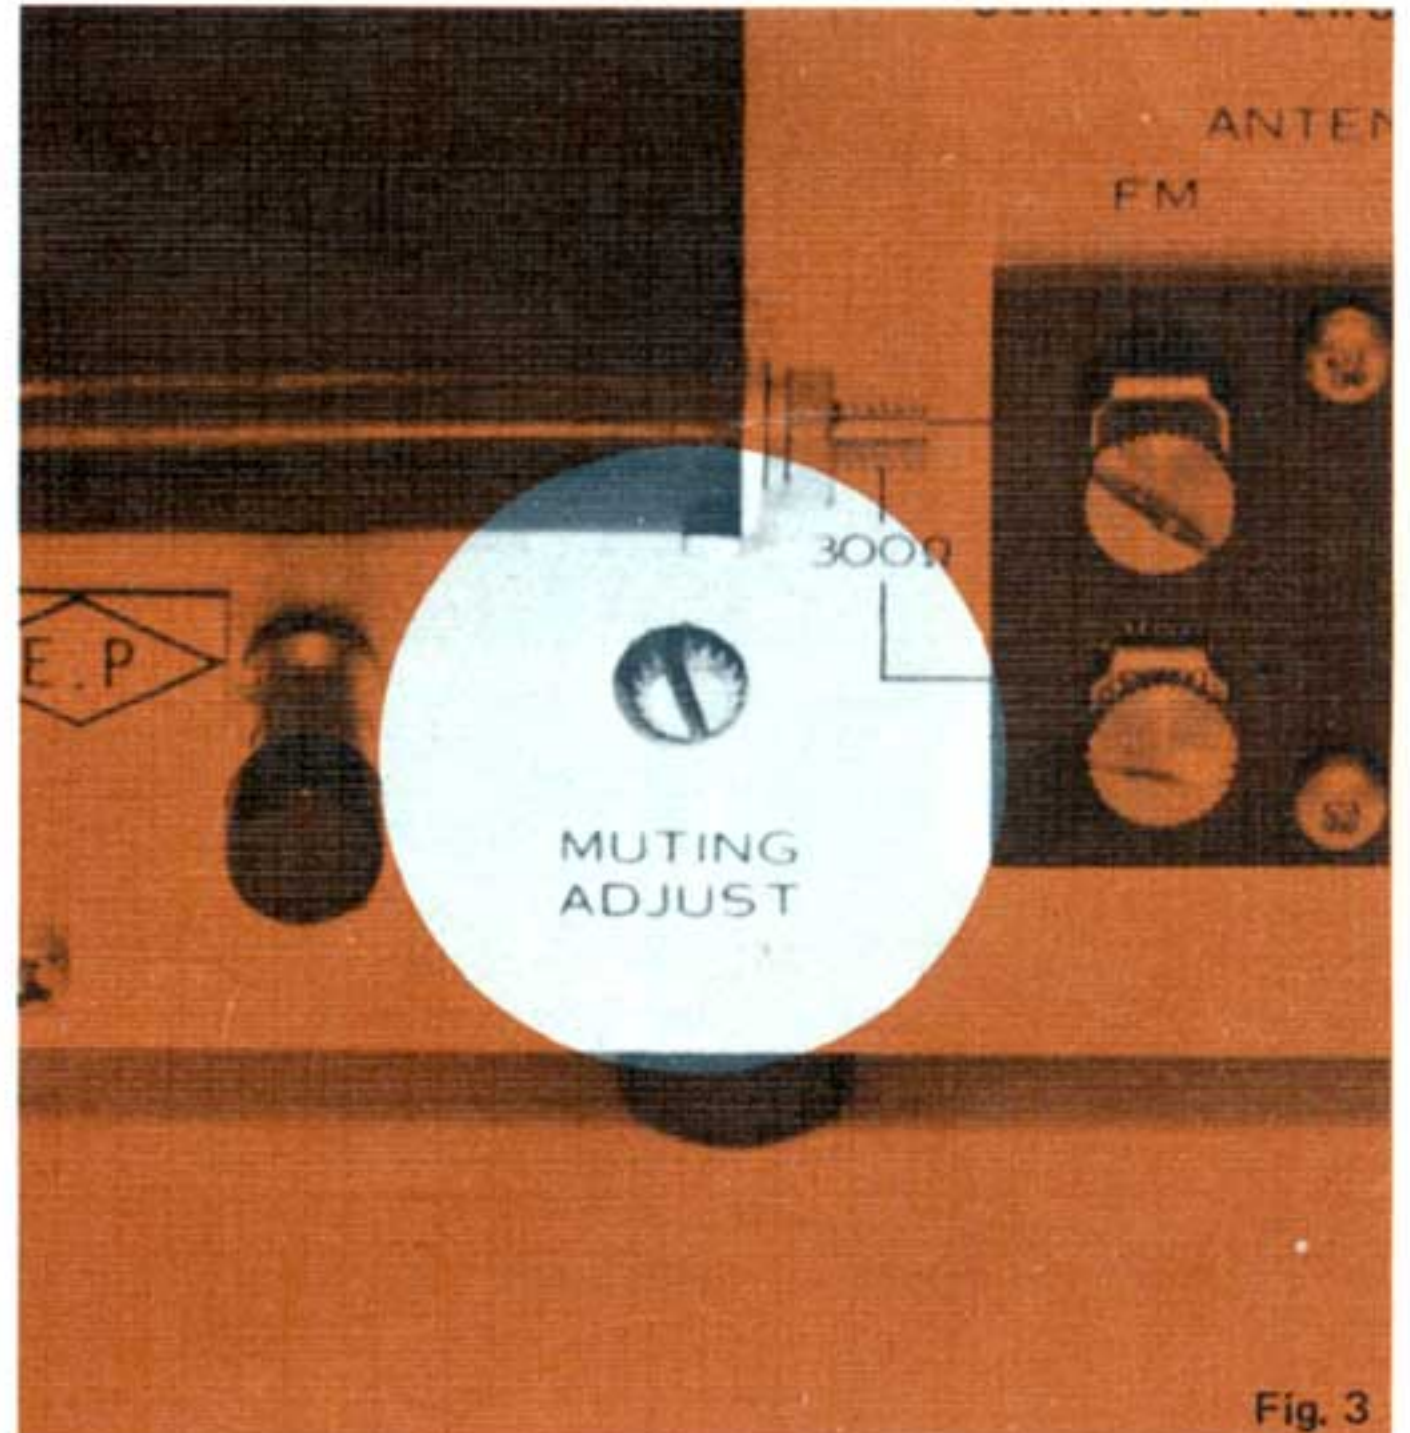
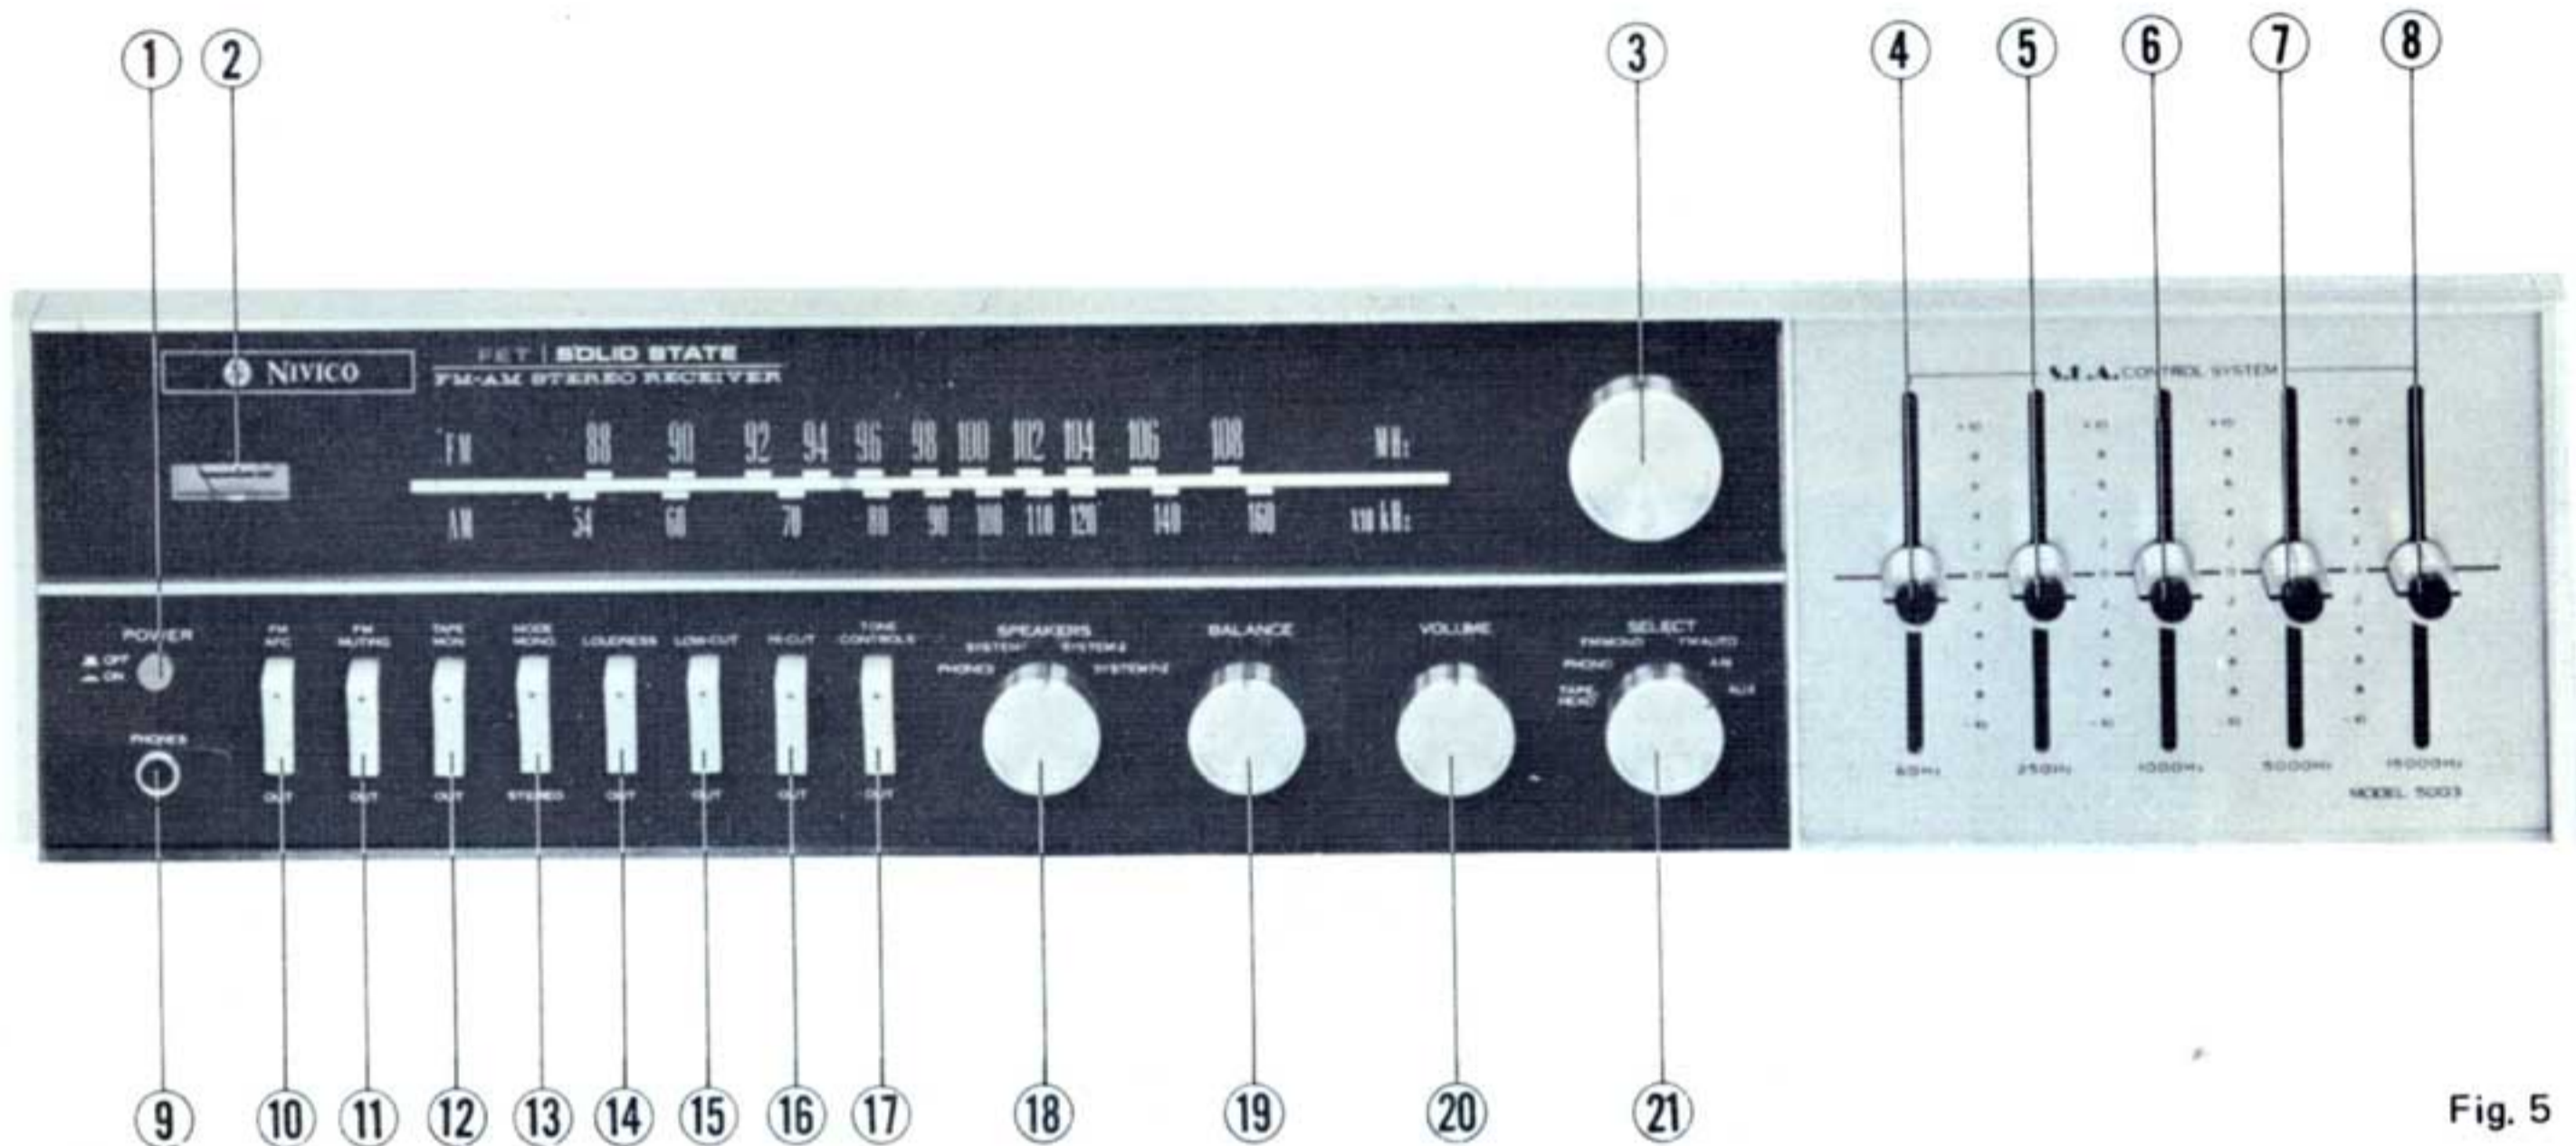

Fig. 3
Fig. 5
MUTING ADJUSTMENT: Limited inter-station noise may sometimes be heard during FM reception. To correct this, use the FM muting adjustor-(26) in Fig.6—located on the back of the set. Connect either the feeder antenna (supplied), or an outdoor antenna to the FM ANTENNA terminal-(27) in Fig. 6. Tune to a position where the maximum amount of noise can be heard. Then set the muting switch-(11) in Fig. 5—to MUTING. Use a screwdriver to turn the FM muting adjustor, Fig. 3, until the inter-station noise is reduced.
(7) 5KHz Knob. If you hear a metallic reverberation, set this knob at "0" or move it toward "minus" (-).
(8) 15KHz Knob. With this knob at "0", the high frequency characteristics are flat. Sharp sounds are emphasized when this knob is moved toward "plus" (+), and deemphasized when it is moved toward "minus" (-).
(9) Head Phone Terminal. To avoid disturbing others and to get maximum enjoyment yourself, plug the JVC NIVICO stereo head phone STH-2E | 5950 into this terminal.
(10) FM AFC (Automatic Frequency Control). This provides stable FM reception. The FM AFC automatically adjusts frequency variation for stable tuning during FM broadcasts. With very weak stations, however, the FM AFC will emphasize the tuning of a stronger station. In such cases, do not use the FM AFC.
(11) FM Muting Switch. This switch eliminates interference between FM stations. For very weak stations, the switch should be set at the "out" position.
(12) Tape Monitor. Set this switch at "out" usually. At the "monitor" position, speakers do not produce sound. The "monitor" position is used only when reproducing recorded sounds with a tape recorder.
(13) Mode. Set this switch at "mono" for monaural reproduction, or at "Stereo" for stereo reproduction.
(14) Loudness. This switch controls sound tone at lower levels. Set it at "LOUDNESS" when listening to soft music.
(15) Low Cut Filter. Eliminates low frequency noises, such as record rumble, motor noise, humming, etc.
(16) High Cut Filter. Eliminates high frequency noise, such as record scratch, hiss static, etc.
(17) Tone Controls. By pushing this switch, the SEA controller, (4), (5), (6), (7), (8) of Fig. 5, is put into operation.
(18) Speaker Selection. Turn this knob to "phone" to use the head phones. Turn it to "System 1" when using the right speaker terminals and to "System 2" when using the left speaker terminals. When using "System 1" and "System 2" together, turn the knob to the "System 1+2" position.
(19) Balance Control. This knob balances the sound volume between left and right channels. The sound is increased toward the left channel when the knob is turned left, and vice versa.
(20) Volume Control. A counter-clockwise turn will lower the volume. A clockwise turn will raise it.
(21) Selector: TAPE HEAD. This position is used when using a tape player with a tape head without an equalizer. FM AUTO. At this position, FM Stereo is automatically reproduced whenever the stereo signal is broadcast. If a station switches from mono to stereo broadcasts, the 5003 will also switch when the selector is in this position.